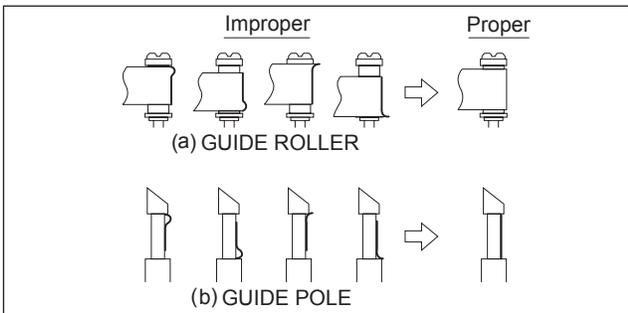

Fig.4-2b
- To prevent damaging the alignment tape in the compatibility adjustment, prepare a cassette tape (for self-recording/playback), perform a test on it by transporting it and making sure that the tape is not bent by the tape transport mechanisms such as in the guide rollers.(See Fig.4-2b.)
- After adjustment, confirm that the tape wrinkling does not occur at the roller upper or lower limits. (See Fig. 4-2b.) [Perform adjustment step (9) only for the models equipped with SP mode and EP (or LP) mode.]
**[Perform adjustment step (9) only for the models equipped with SP mode and EP (or LP) mode.]**
- Repeat steps (1) to (8) by using the alignment tape (A2).